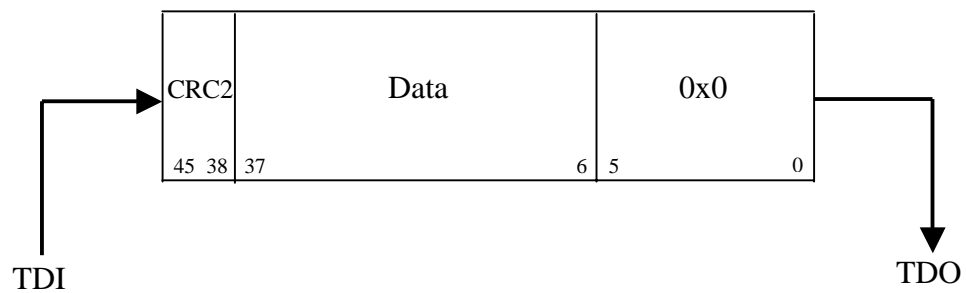

Figure 8: Register Scan Chain (data shifted out)
- CRC2 (Figure 8: Register Scan Chain (data shifted out)) is shifted out. It is calculated from the address and the R/W that were shifted in and data that is shifted out (data read from register).